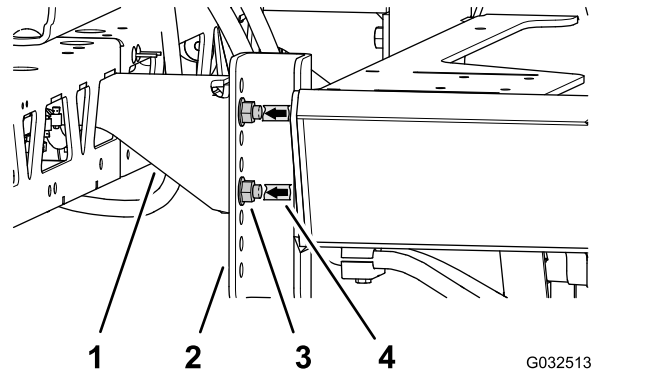

Figure 68
- Use a piece of tape to mark the holes where the 4 flange-head bolts (1/2 x 1-1/4 inches) and 4 flange locknuts (1/2 inch) secure the support brackets for the center boom section to the mounting channels of the machine (Figure 68).